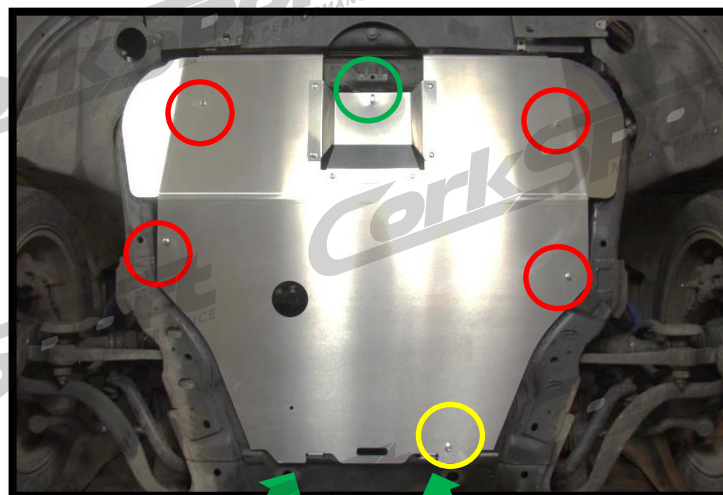

Figure 2b
- b) Guide the tabs on the rear of the skid tray, into the slots in the subframe (green arrows in Figure 2b).
- c) Line up the hole in the oil filter access cover to the threaded hole in the core support (green circle in Figure 2b). Hand thread in one of the supplied 10mm bolts.
- d) Guide the threaded portions of the rubber isolators through their appropriate holes in the skid tray and thread on the four (4) 10mm nuts (red circles in Figure 2b).
- e) Thread the last supplied 10mm bolt through the skid tray, into the subframe (yellow circle in Figure 2b). Tighten with a 10mm socket wrench.